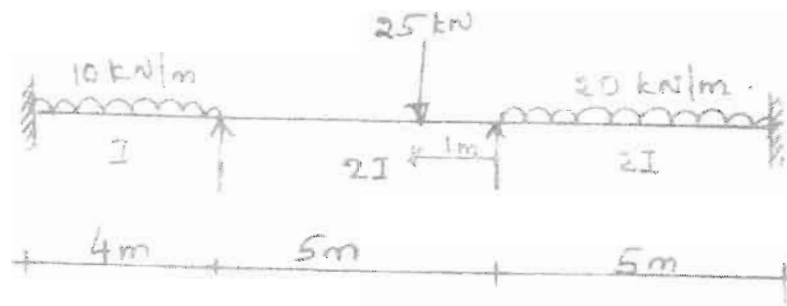

Fig. 5
- (b) Analyse the continuous beam shown in Fig. 5 by Kani's method. Sketch the bending moment diagram.